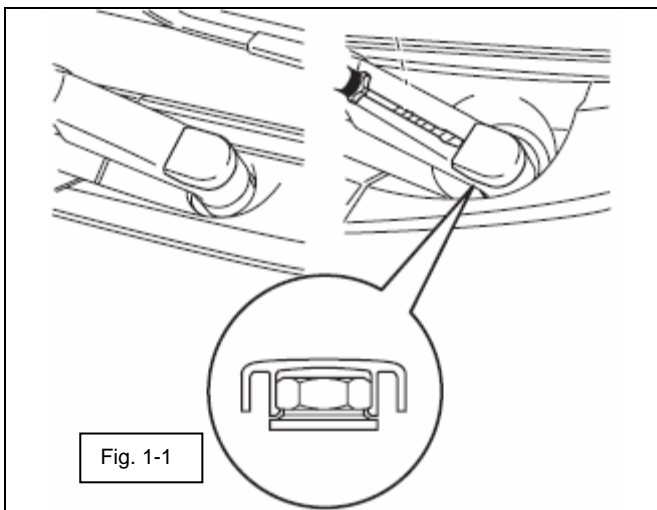

Fig. 1-1
(1) Remove wiper arm head caps with nylon pry tool or pull off with fingers. (Fig. 1-1)
(2) Remove nut and pull wiper arm off of wiper drive stud. (🔑14mm)